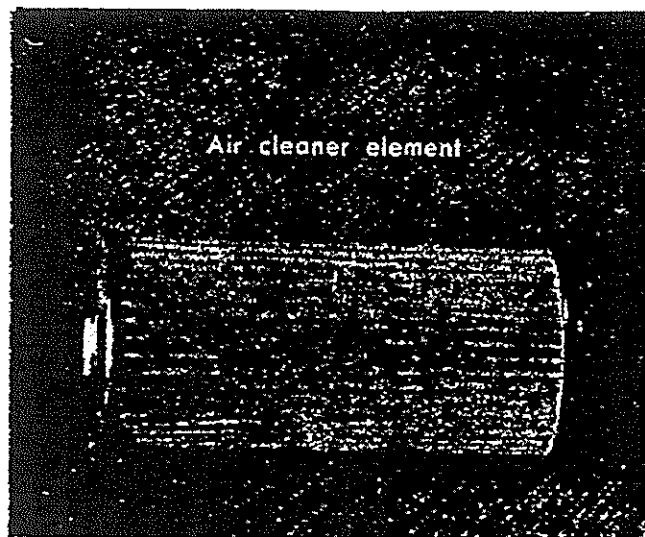

Fig. 33
- b) Tap cleaner lightly and remove accumulated dust or brush clean with soft hair brush. (Fig. 33)